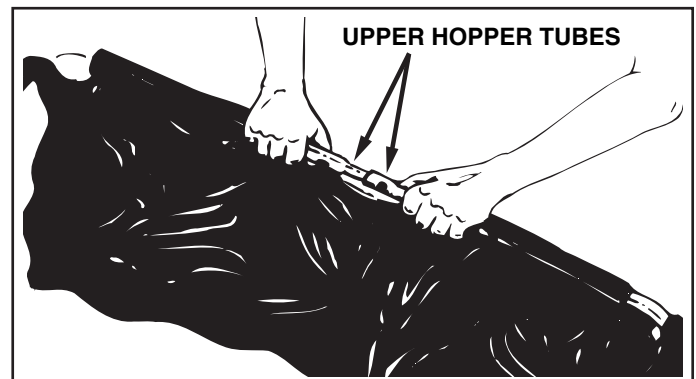

FIGURE 9
- Slide the two upper hopper tubes together and line up the center holes as shown in figure 9.